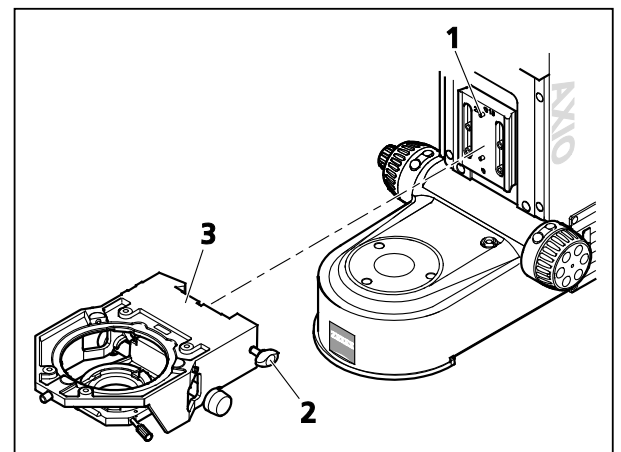

Fig. 29 Changing the stage carrier
- To remove the stage carrier (Fig. 29/3), grip it firmly and loosen the clamping lever (Fig. 29/2) until the stage carrier can be taken out of the guide from the right to the left.
- To attach the stage carrier, insert it on the left into the guide and push it horizontally against the supporting surface of the guide and vertically against the upper stop bolt (Fig. 29/1).
- Tighten clamping screw (Fig. 29/2) and verify that the stage carrier is sitting snugly in the guide.